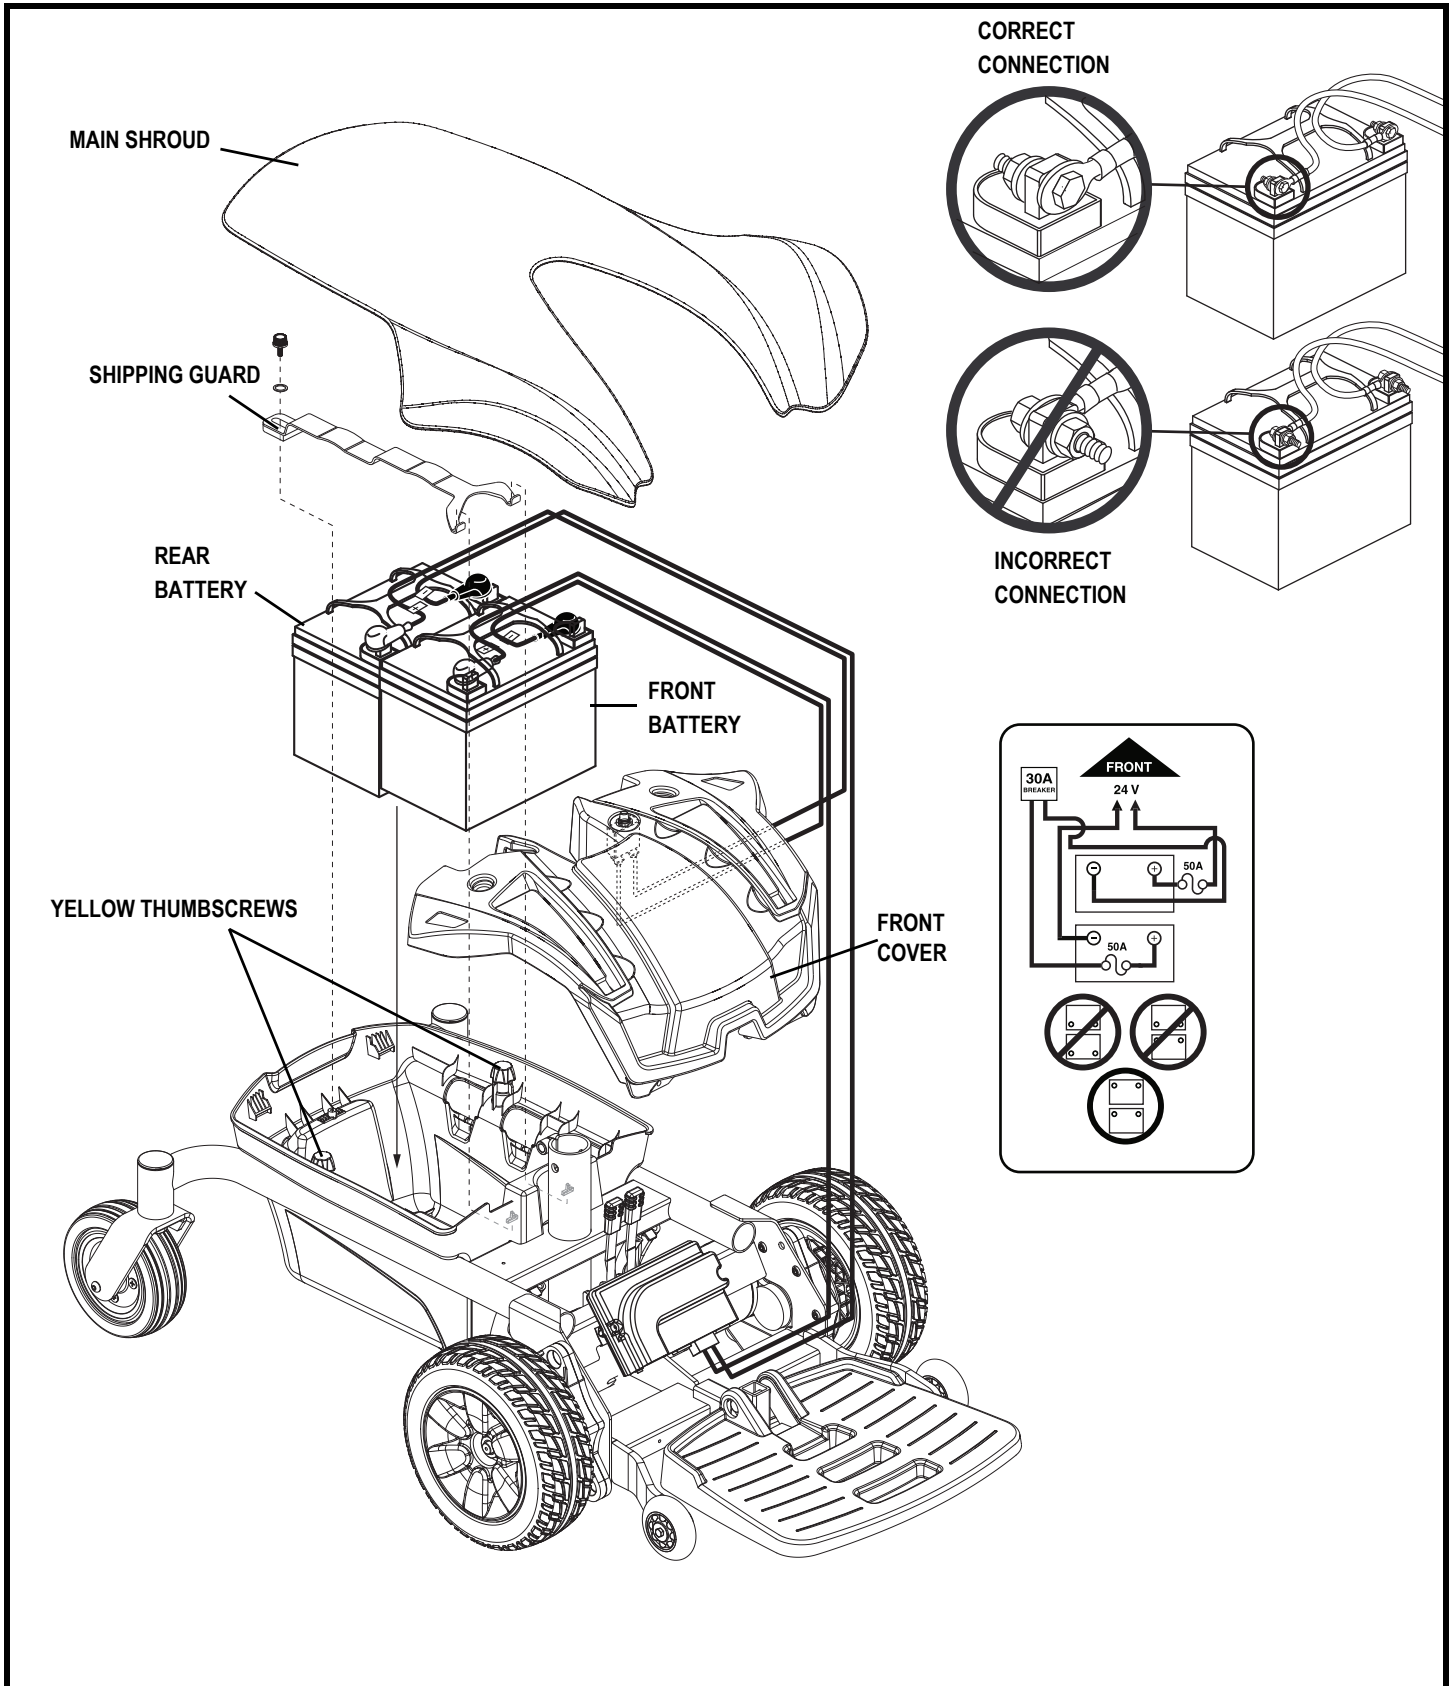

Figure 21. Battery Installation (Seat Removed for Clarity)
4. Remove the main shroud by lifting the rear of the shroud up and pulling the shroud back. **See figure 21.**
5. Remove the shipping guard if applicable. **See figure 21.**
6. Disconnect the battery cables from the battery terminals of each battery. **See figure 21.**
9. Install new batteries into the battery tray. Make sure the terminals of each battery are facing the front of the power chair. **See figure 21.**
11. Connect the front battery cable to the front battery terminals according to the battery wiring diagram. Make sure that the battery terminal hardware is facing the correct direction. **See figure 21.**
12. Connect the rear battery cable to the rear battery terminals according to the battery wiring diagram. Make sure that the battery terminal hardware is facing the correct direction. **See figure 21.**